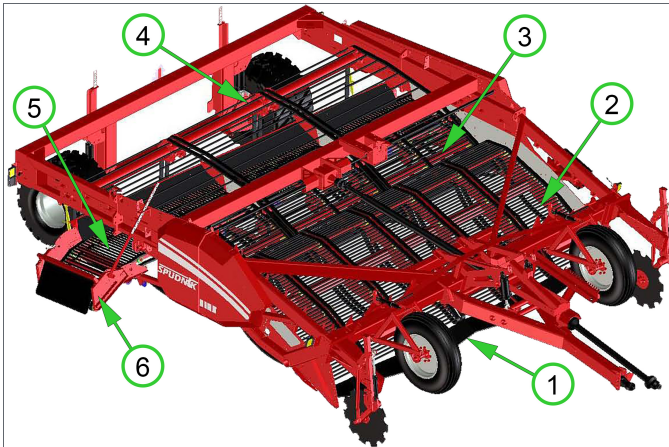

Figure 1
The basic components and physical layout of the windrower are designed to efficiently and consistently dig potatoes while minimizing product damage and waste. (see Info and Figure 1)
Legend for Figure 1: (1) Digger Nose, (2) Primary Chain, (3) Secondary Chain, (4) Vine Chain, (5) Rear Cross Chain, (6) Discharge.